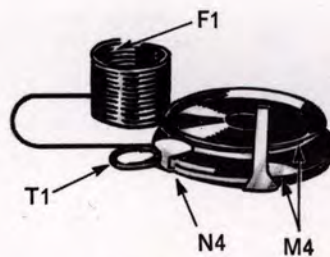

Fig. 21.
2. Place tension discs M4 on thread guard N4 as shown in Fig. 21.
3. Pass take-up spring eyelet T1 under thread guard with coils of spring above tension discs as shown in Fig. 21.
**NOTE:** TAIL F1, FIG. 21, ENTERS ONE OF THE GROOVES IN REAR OF TENSION STUD (SEE INSTRUCTIONS "SETTING THE TENSION" ON PAGE 9).